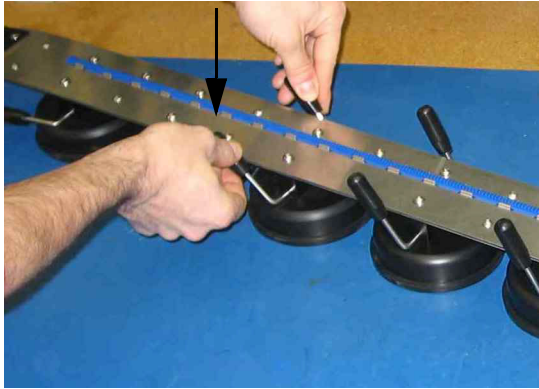

Figure 2-1 Pulling down the hand levers on a model with manual vacuum cups
3. If you are using the Wing scanner H manual vacuum cup model, position the flexible axis on the desired inspection location, and then pull the hand levers of each vacuum cup down toward the mounting surface (see Figure 2-1 on page 20).